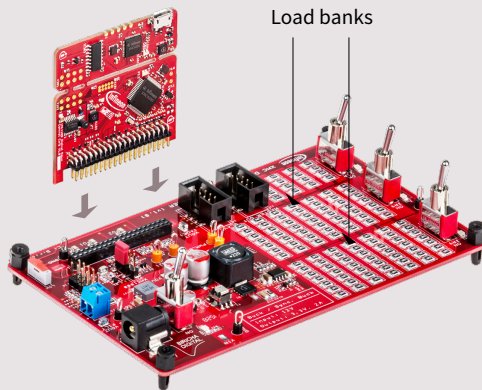

Figure 1
- › Plug one of the control cards into the power board in such way that the control card "noses" goes through the drillings on the power board (see Figure 1)
IMPORTANT NOTE: The power board contains resistive load banks (Figure 1).